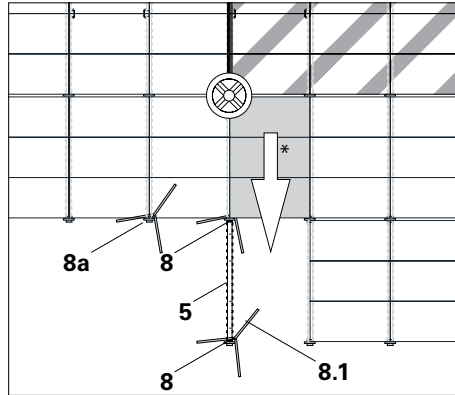

Fig. A1.17
Secure the props of all free-standing Main Beams SLT 225 (5) using Universal Tripods (8). Always place the tripods so that the fixed leg (8.1) is positioned under the assembled formwork. Also secure the props in the adjacent bay using tripods (8a). (Fig. A1.17)
(Fig. A1.17 + A1.18)